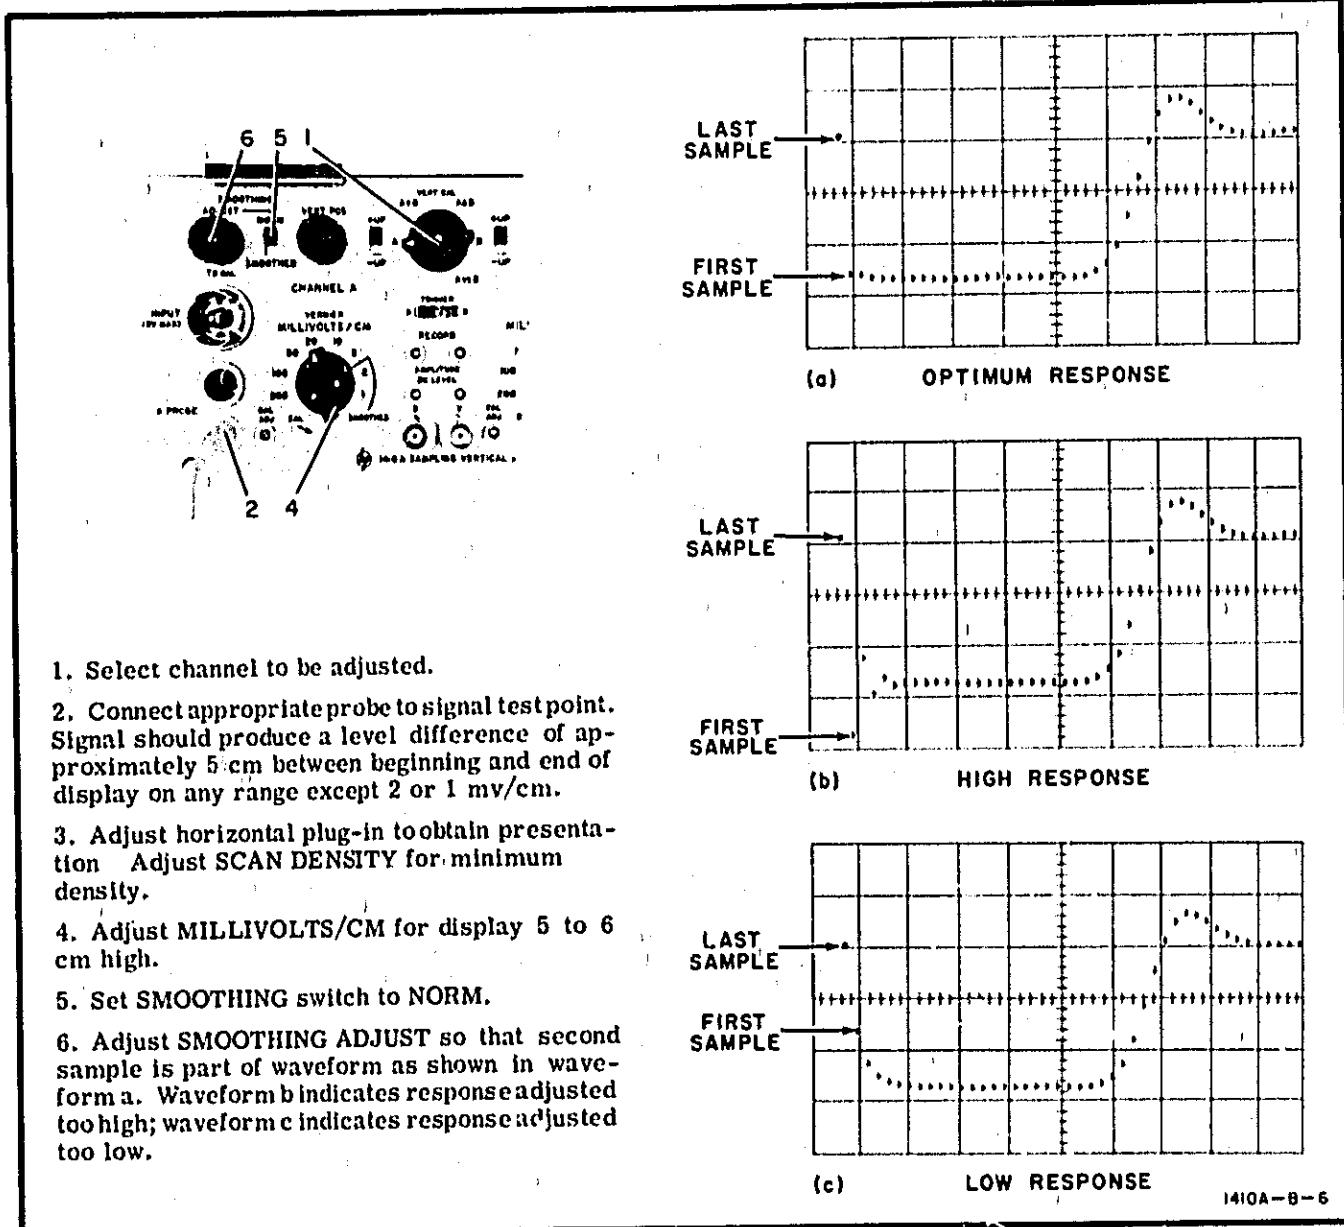

Figure 3-3. Optimizing Response
3-25. Sampling efficiency is dependent upon three factors: 1), the RC time constant of the sampling capacitance, and the signal source and sampling diode impedances; 2), length of time the sampling gate is "on" and 3), loop gain of the sampler/stretcher loop. The sampling time and RC time constant are fixed. However, since signal source impedance will vary as the probe is moved from one test point to another, the sampling efficiency will also vary. By making the loop gain variable (SMOOTHING ADJUST), the sampling efficiency can be quickly and conveniently optimized at any time. Figure 3-3 shows the procedure for optimizing the response.
c. Reset sampling efficiency with the SMOOTHING ADJUST (see Figure 3-3).
- Optimize response as shown in Figure 3-3.
- Optimize response as shown in Figure 3-3 for both channels.
6. Optimize response for each channel as shown in Figure 3-3.